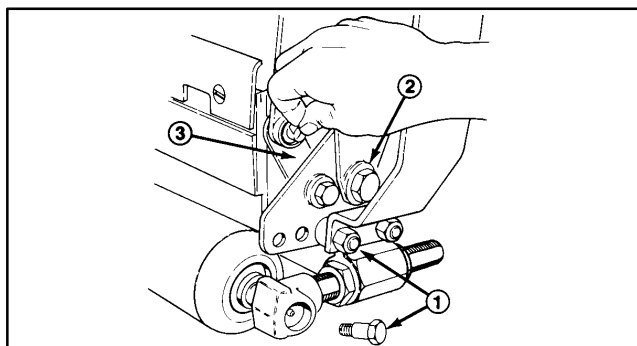

Figure 16
1. Remove shoulder bolts, bushings and spacers from each end of the unit. Remove bedbar/bedknife assembly (Fig. 16).